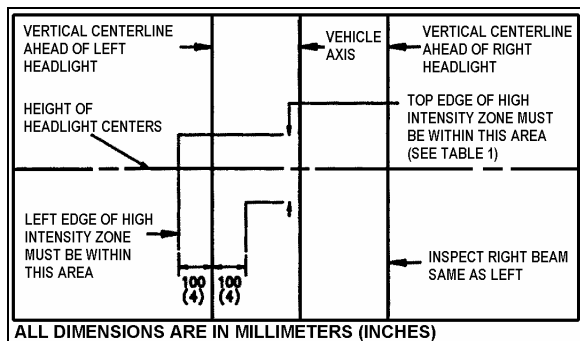

FIGURE 50: AIM INSPECTION LIMITS FOR LOWER-BEAM HEADLIGHTS
- The inspection limits in the vertical direction for low-beam headlights or the low beam of a dual-beam headlight, shall be as described in Table 1. In the horizontal direction, the left edge of the high-intensity zone shall be located from 10 cm (4 inch) left to 10 cm (4 inch) right of the vertical centerline of the beam. The viewing screen shall be located 7.6 m (25 ft.) in front of the vehicle (Figure 50).